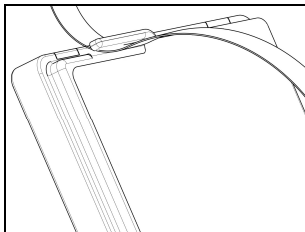

Fig. 9
- Secure the keypad flex in the specials stop (Fig. 9).